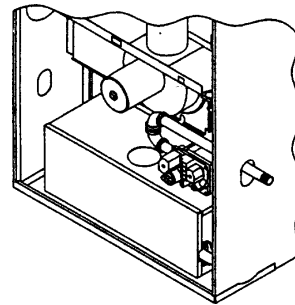

Figure 18
- Straight pipe to reach exterior of furnace (Figure 18).